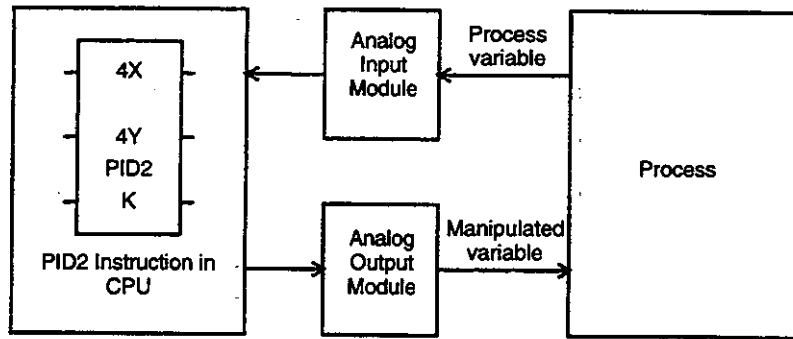

Figure 1.1 PID Loop Configuration
- 1) Configuring circuits for one loop of PID control requires an Analog Input Module to input the process variable and an Analog Output Module to output the manipulated variable, as shown in *Figure 1.1* below.